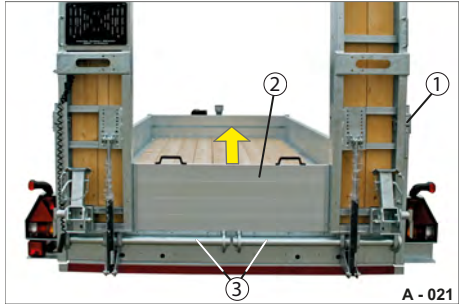

Fig. 23 Unlocking the drive-up ramps
- ▶ If necessary, remove the slot-in gate (Fig. 23/2).
- ▶ Check that the track width guide linkages (Fig. 23/3) are free of dirt - if necessary, clean and apply a little grease beforehand.
- ▶ Unlock the ramp retainer (Fig. 23/1).